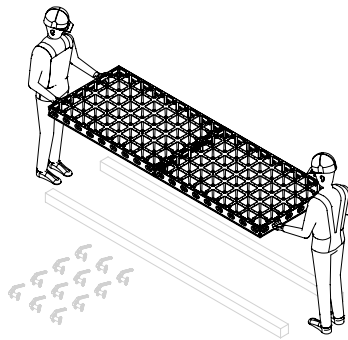
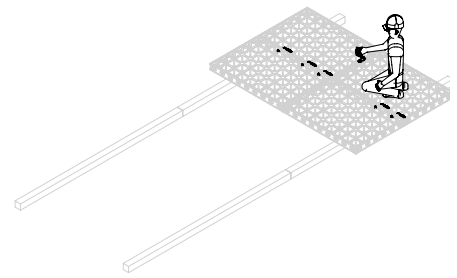

Fig. B1.12
Fig. B1.13
3. Place a second panel unit next to the first panel unit and connect them at the long joint using DUO couplers (20). (Fig. B1.12 + Fig. B1.13)